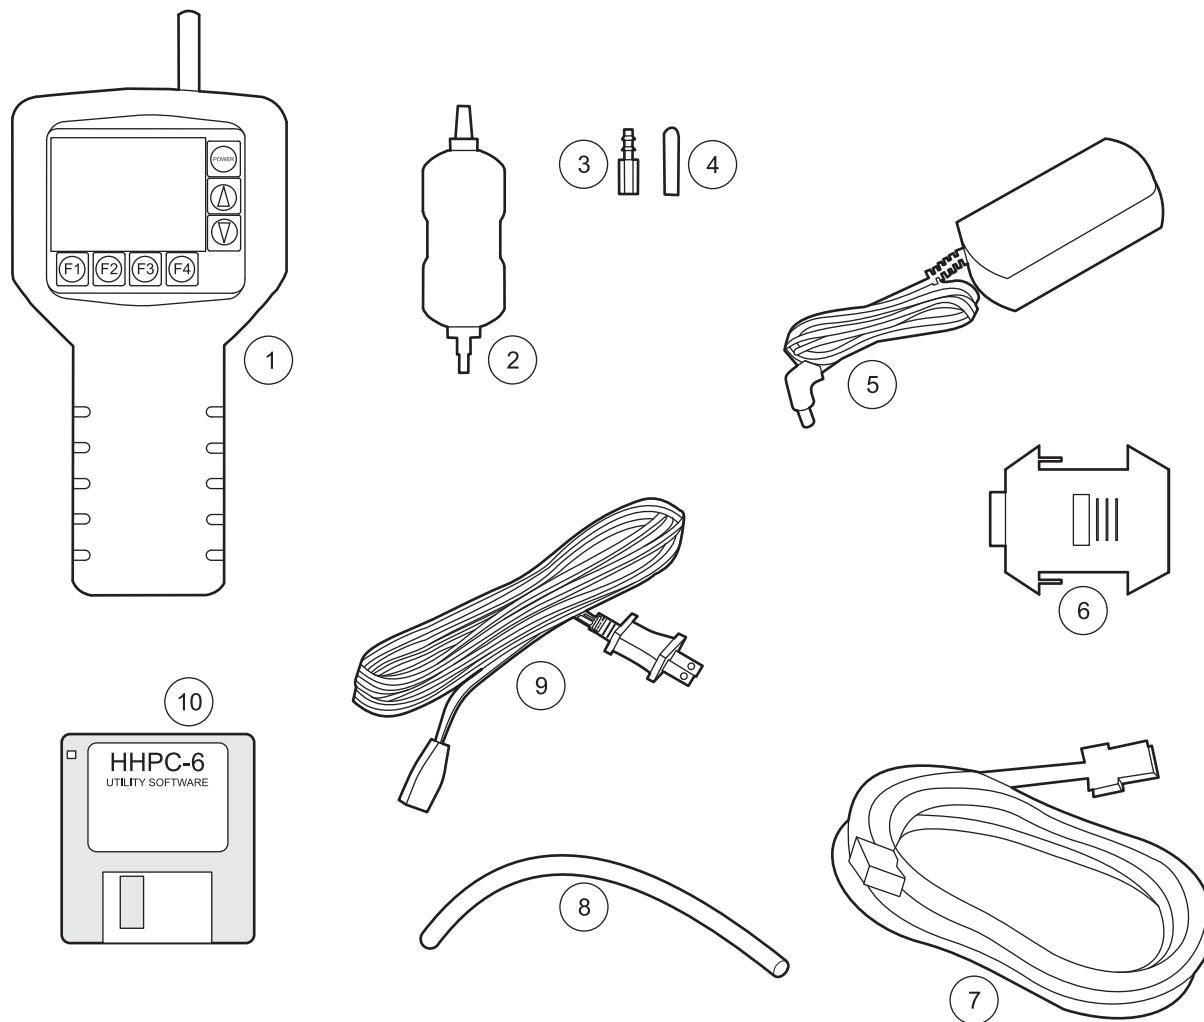

Figure 3 List of packaged items
Remove the components from the shipping container and inspect for damage. Verify that all the items listed in Figure 3 are included. If any items are missing or damaged, contact the manufacturer or sales representative.
In a clean-room application, the zero count filter (refer to Figure 3 on page 11, item 2) verifies that the MET ONE HHPC-6 is not counting electrical noise signals from internal components and is not subject to external interference. In indoor air quality and other applications, the zero count filter cleans out the sensor immediately after a high concentration sampling.